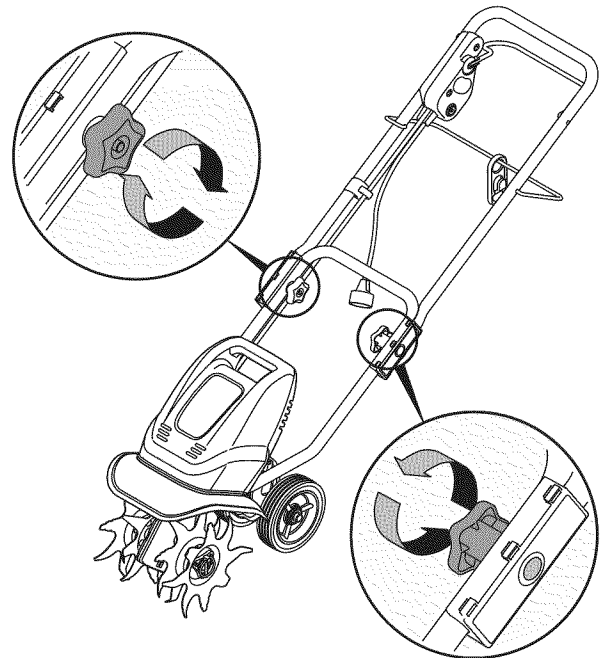

Fig. 2
3. Hold the handlebar in place while screwing the knobs onto the bolts (Fig. 2).